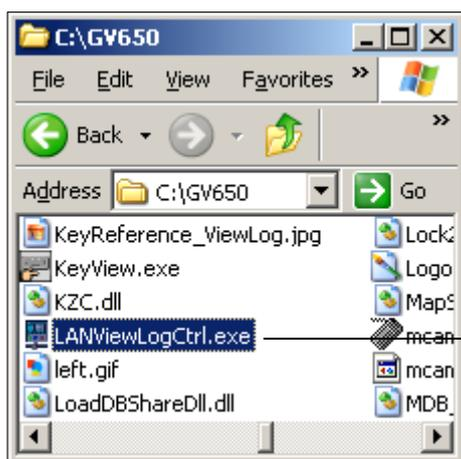

Figure 4-29-1
2. To download LAN ViewLog, locate **LANViewLogCtrl.exe** from the system folder (Figure 4-29-1), and copy and paste this program to your local computer.